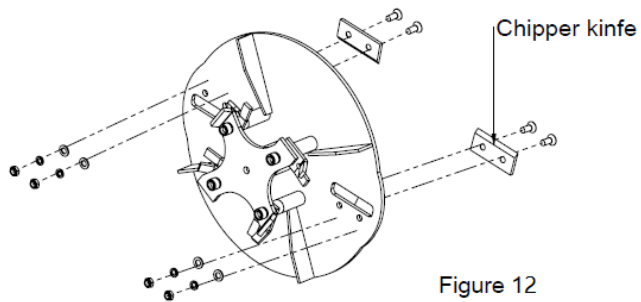

Figure 12
5. Using a hex wrench, remove the two socket head cap screws and the chipper knife. See Figure 12.